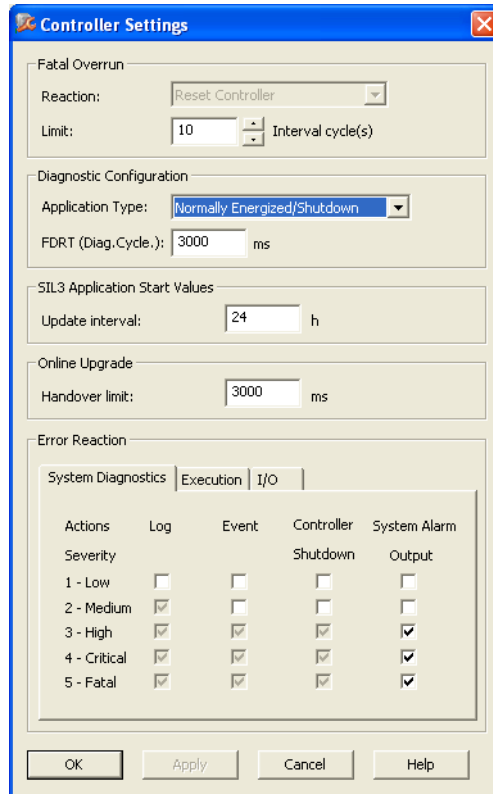

Figure 182. Controller Settings dialog for an AC 800M High Integrity controller.
The Controller Settings dialog is different for an AC 800M High Integrity (HI) controller. It is displayed by right-clicking the (HI) controller in Project Explorer and selecting **Properties > Controller Settings**. There are also differences regarding what can be configured for the Error Handler, see Figure 182.